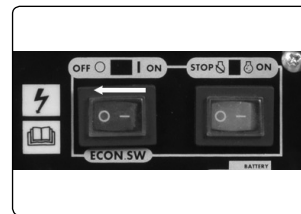

fig.11
6.4.2. Turn the ECS to "OFF" fig.11.